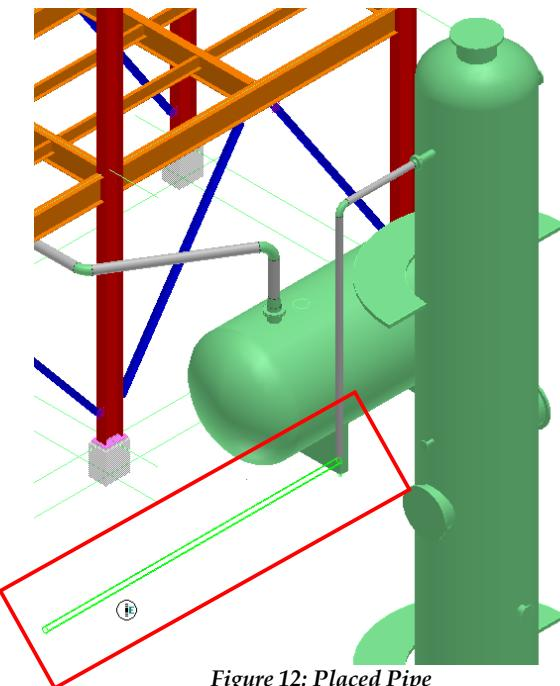

Figure 12: Placed Pipe
46. Key in **20 ft** in the **Length** drop-down list on the **Route Pipe** ribbon. Move the cursor towards the left (west direction) until SmartSketch displays the **E** glyph, as shown in Figure 12 and click in the graphic view to place the pipe.